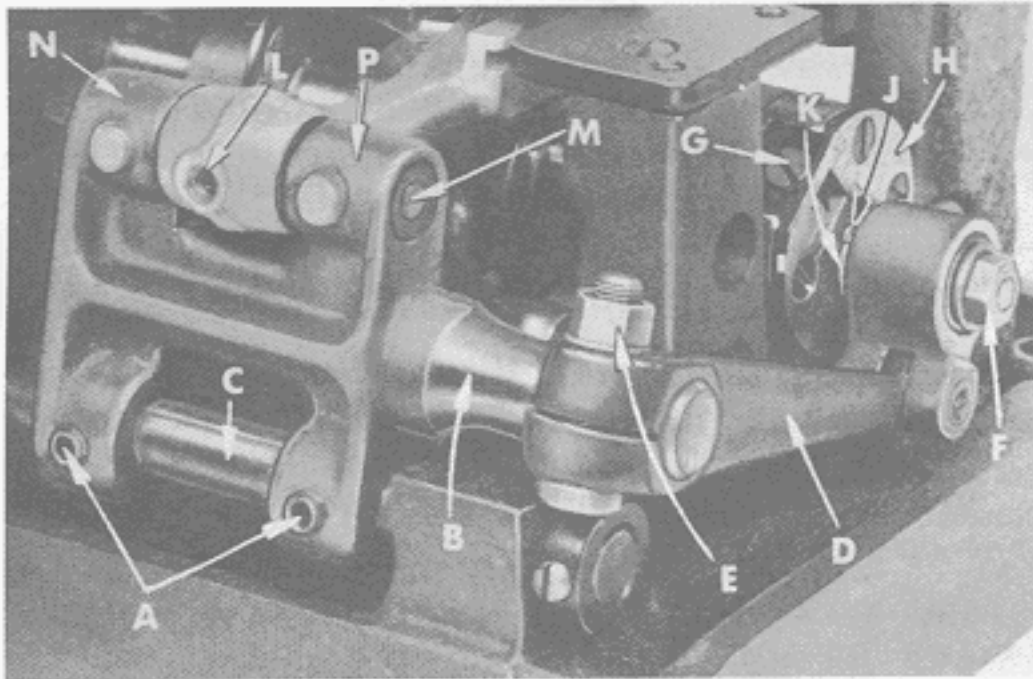

Fig. 10
Should it be necessary to move the feed dog to the left or right, loosen screws (A, Fig. 10) which hold the feed rocker (B) onto the feed rocker shaft (C), and move feed rocker to desired position and retighten screws. Make sure the feed rocker arm (D) does not bind after making this adjustment.
Should it be necessary to move the feed dog forward or backward, loosen nut (E, Fig. 10) which clamps the feed rocker arm to the feed rocker and move the feed rocker forward or backward as needed and retighten nut.
Set the stitch to required length. This is accomplished by loosening the locknut (F, Fig. 10) 1/2 turn (it has a left hand thread) on the end of the stitch regulating stud and turning the stitch adjusting screw (G) located under the left end of the cloth plate, in the head of the main shaft (H), which is marked with "L" and "S". Turning the screw clockwise shortens the stitch (moves stitch regulating stud toward the "S") and turning it in a counterclockwise direction lengthens the stitch (moves stitch regulating stud toward the "L"). Retighten the locknut securely. To prevent destructive damage to the feed drive bearing, the Key screw (J) must engage the "U" shaped key slot in the ferrule (K).
Greased bearings are located at (N, P, Fig. 10). If grease sealed bearings are replaced they should be pressed in flush with the casting. To assemble, reverse the procedure described in the previous paragraph. Start tapered end of shafts first, twisting slightly when entering the grease seals to prevent damage. Check for proper adjustment of feed dog as described under "Setting the Feed Dog". Also check to see that there is no binding at any point.